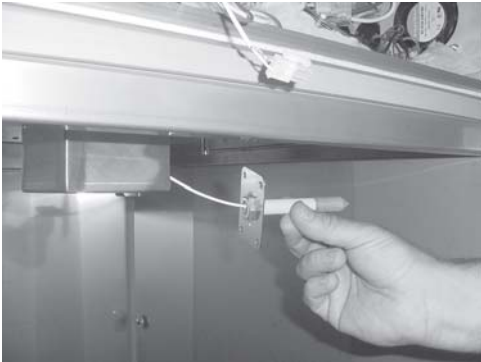

Figure 3-3
4. Pull the sensor assembly from the box and disconnect the wires. Figure 3-3.